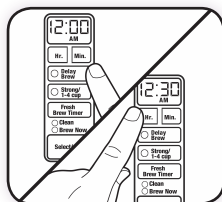

Figure 23
- 1 You must first set the time when you would like the coffeemaker to begin brewing your coffee as described in the **SETTING THE DELAY BREW TIME** section. (Figure 23)